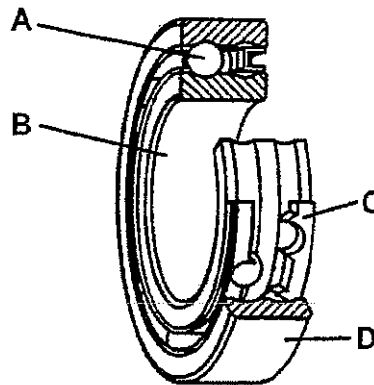

FIGURE 2
3.2 Questions with regard to FIGURE 2: